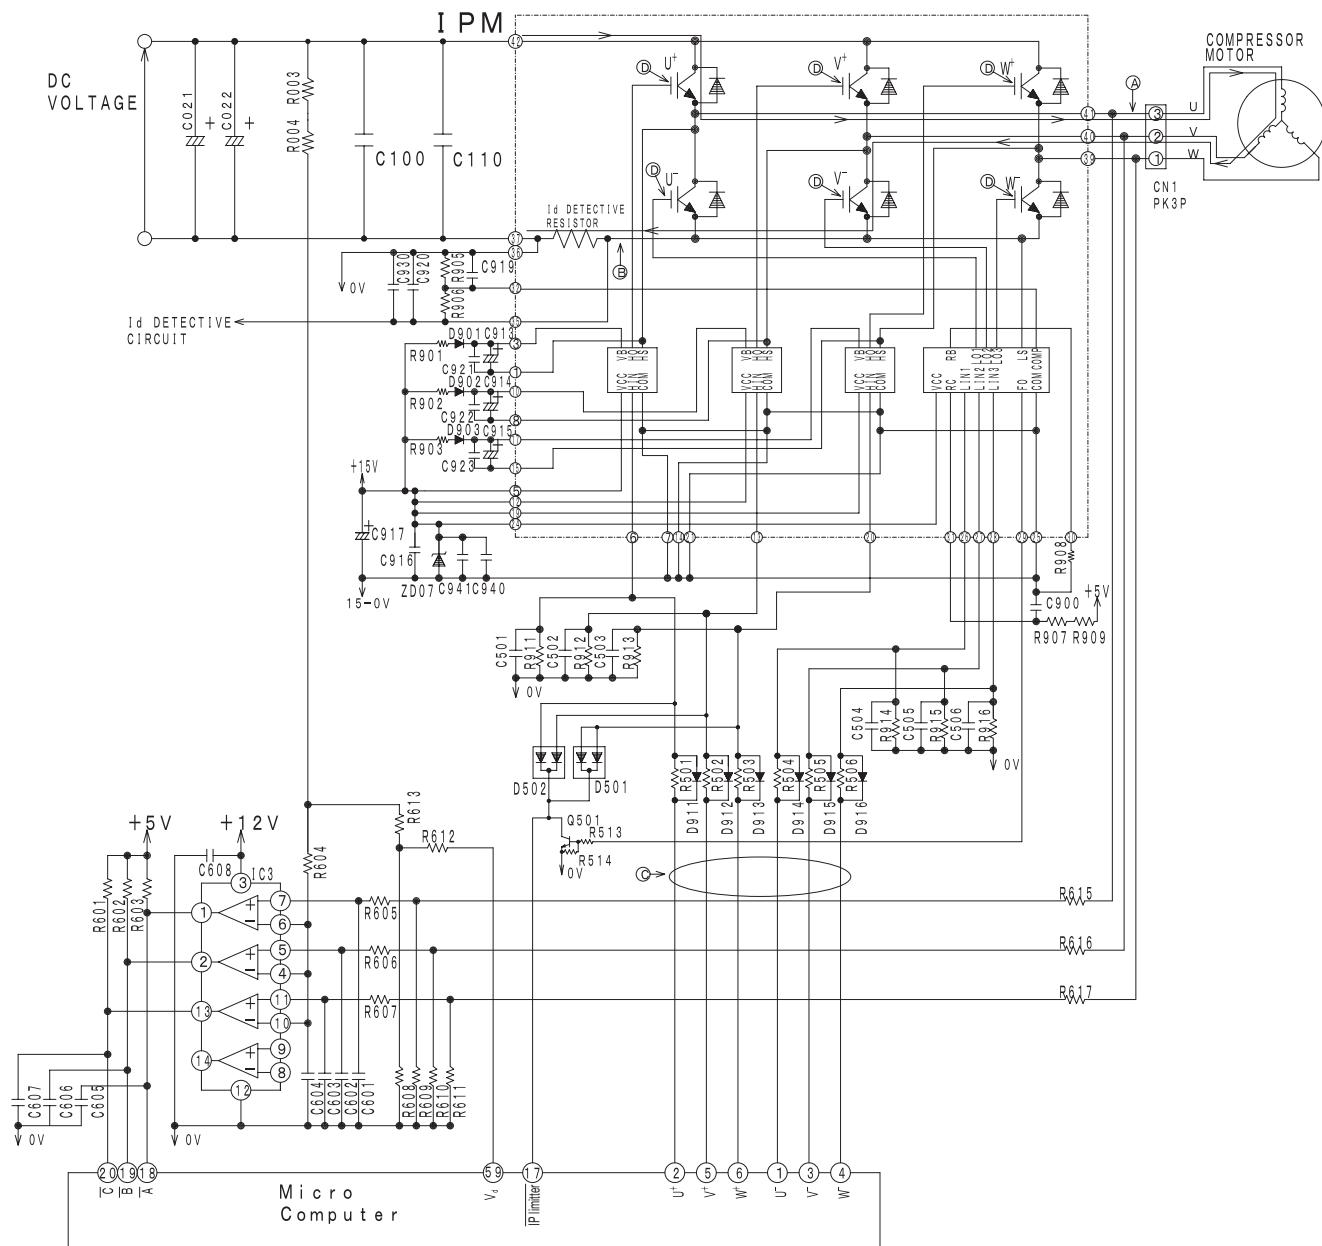
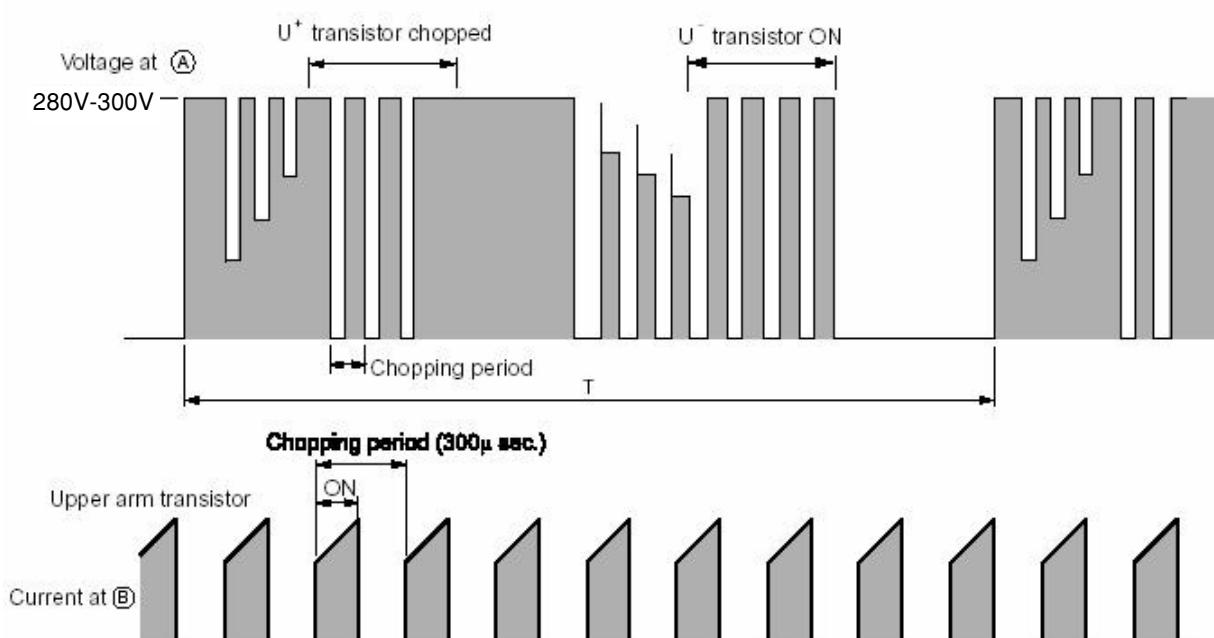

Fig. 4-1 Intelligent power module circuit (U^+ is ON, V is ON)
Fig. 4-3 Voltage waveform at each point
- Fig.4-1 shows the intelligent power module and its peripheral circuit. The three transistors on the positive e side are called the upper arm, and the three transistors on the negative d side, the lower arm.
At point ⑤: U+ is ON, V is ON (circuit in Fig. 4-1)
Fig. 4-3 shows voltage waveform at each point shown in Figs. 4-1 and 4-4. First half of upper arm is chopper, second half is ON, and first half of lower arm is chopper, second half is ON.
- (1) When U^+ transistor is ON: U^+ transistor \rightarrow U coil \rightarrow V coil \rightarrow V^- transistor \rightarrow DC current detection resistor \rightarrow Point ⑧ (Fig. 4-1)
Since current flows at point (B) only when U^+ transistor is ON, the current waveform at point (B) becomes intermittent waveform as shown in Fig. 4-3. Since current at point (B) is approximately proportional to the input current of the air conditioner, input current is controlled by using DC current (I_d) detection resistor.